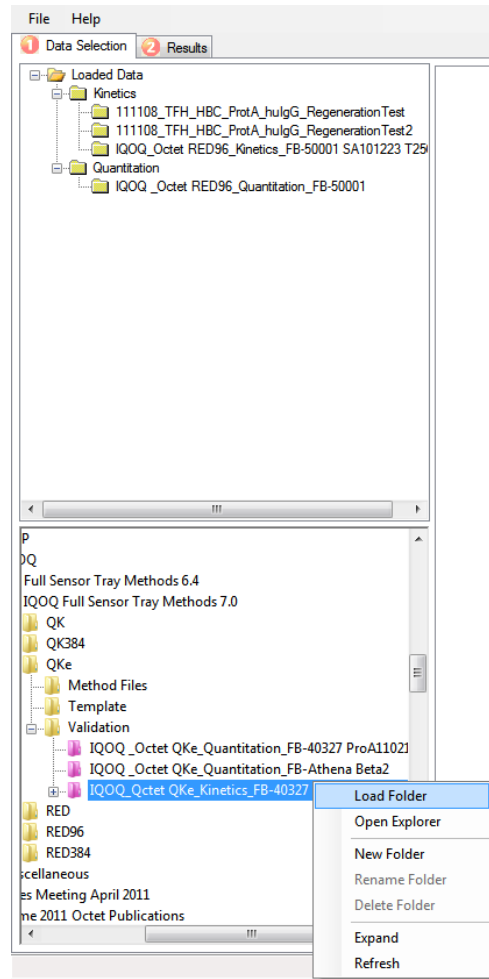

FIGURE 3.13. LOADING THE KINETICS QUALIFICATION DATA FOLDER IN OCTET DATA ANALYSIS SOFTWARE.
- 1.3. Right-click the selection and choose **Load Folder** option (Figure 3.13). This action will populate the folder in the top left-hand side window under the **Kinetics** folder.